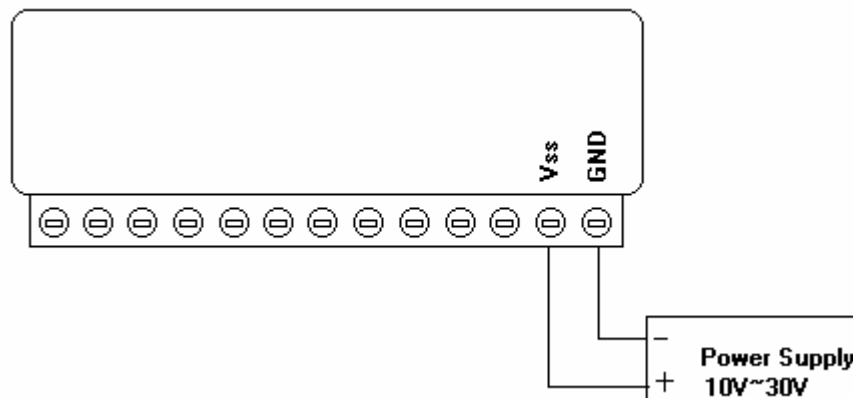

Figure 1-1 Power wiring
- ♦ Make sure to prepare all of the items above, then connect the power and network wiring as Figure 1-1 Power wiring.